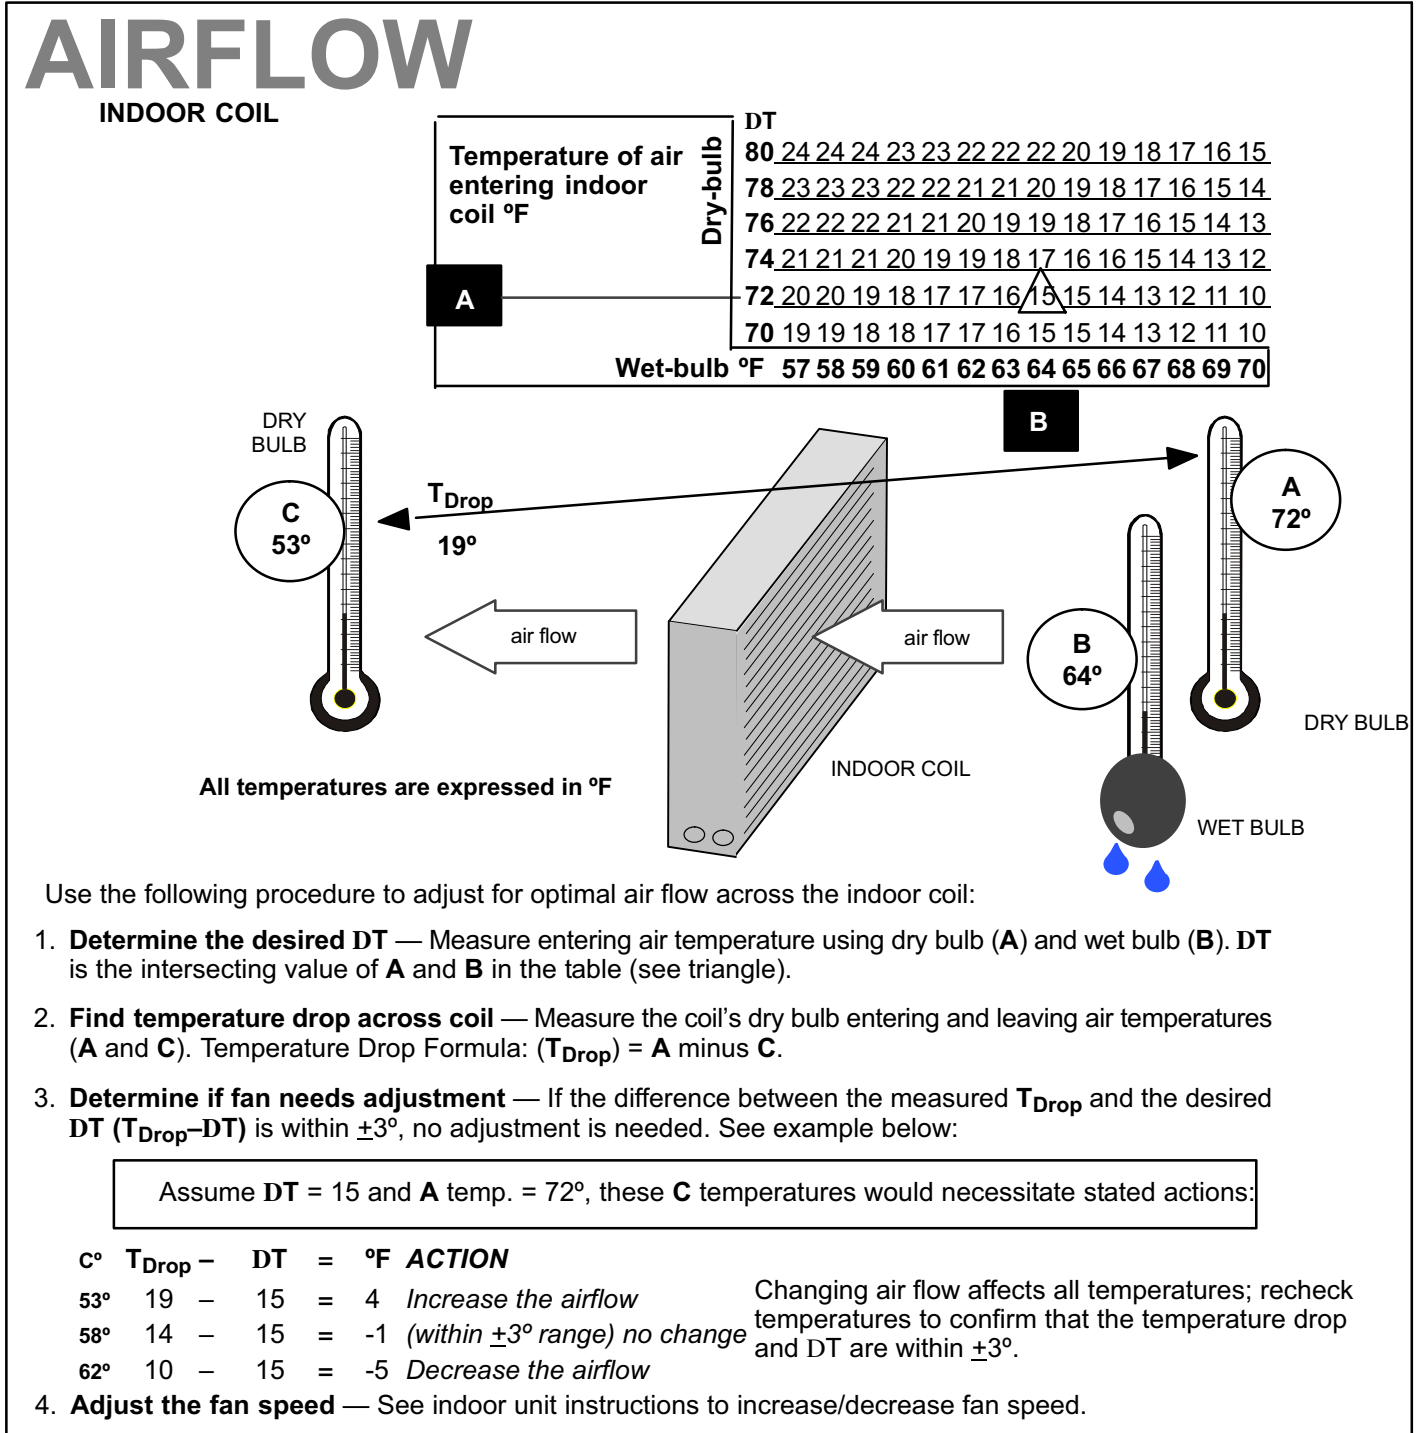

Figure 15. Checking Indoor Airflow over Evaporator Coil using Delta-T Chart
This system uses HFC-410A refrigerant which operates at much higher pressures than HCFC-22. The pre-installed liquid line filter drier is approved for use with HFC-410A only. Do not replace it with components designed for use with HCFC-22. This unit is NOT approved for use with coils which use capillary tubes or fixed orifices as a refrigerant metering device. Check airflow using the Delta-T (DT) process using the illustration in figure 15.
- Check the airflow as illustrated in figure 15 to be sure the indoor airflow is as required. (Make any air flow adjustments before continuing with the following procedure.)